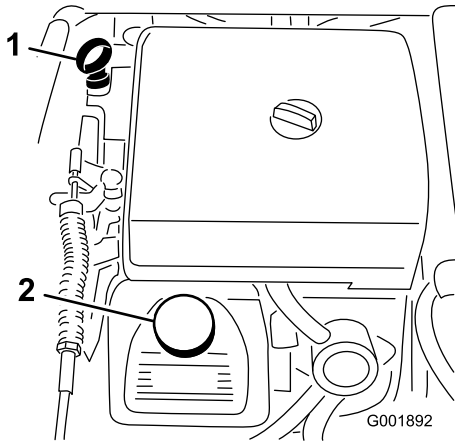

Figure 20
2. Remove the dipstick and wipe it with a clean rag (Figure 20). Insert the dipstick into the tube and make sure it is seated fully. Remove the dipstick and check the oil level.
3. If the oil level is low, remove the filler cap from the valve cover (Figure 20) and pour oil into the opening until the oil level is up to the Full mark on the dipstick; refer to Servicing Engine Oil, Engine Maintenance, page 43, for the proper oil type and viscosity. Add the oil slowly and check the level often during this process. Do not overfill.